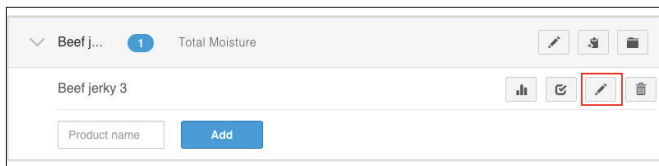

Figure 74 Select product
3. Select the product group that contains the product to be added as a model (Figure 74).
- Click the edit icon on the product row (Figure 74).